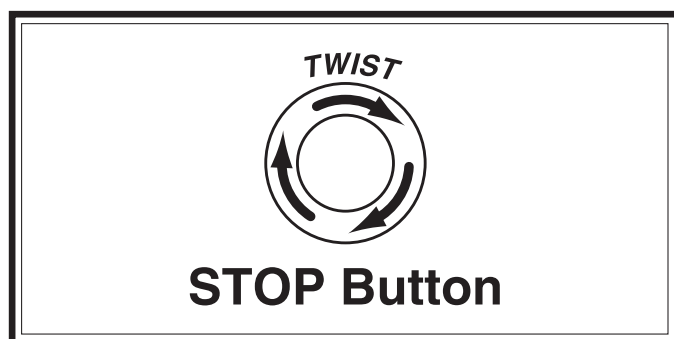

Figure 27. Resetting the switch.
5. Twist E-Stop button clockwise until it springs out (see **Figure 27**). This resets the switch so machine can start.